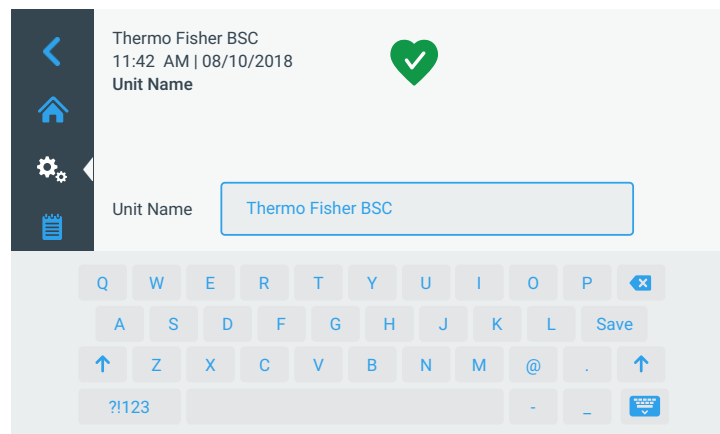

Figure 81 “Display Settings” Screen: “Unit Name” Screen
5. Tap on the *“Unit Name”* field to display a full keypad, as shown in Figure 81 below.